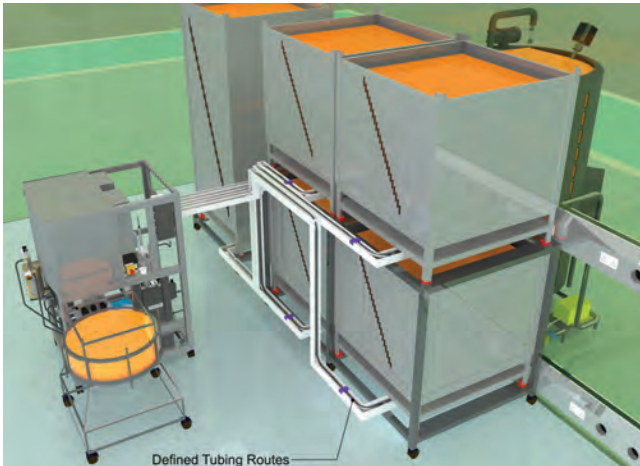
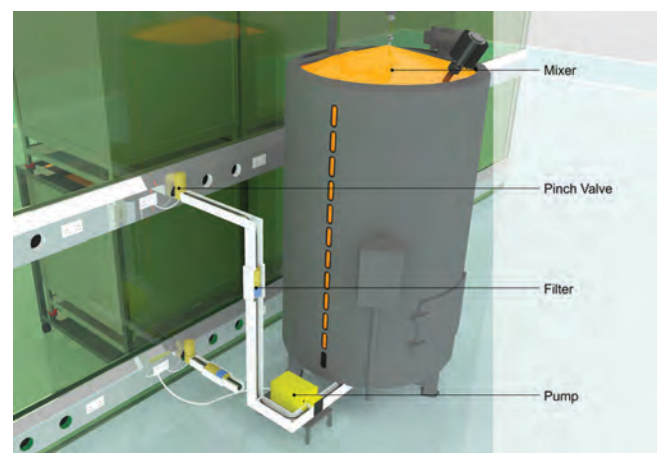

Figure 4. Defined tubing routes and the “drawbridge” used to connect to the chromatography control skid.
Figure 5. Use of pinch valves and defined tubing routes to control transfers through the wall.
By making the systems static, all three of these mitigating measures become available. A 3D interpretation of the defined tubing routes concept is shown in Figure 4 (along with a “draw bridge” which swings into place when totes are in use).
Figure 5 shows a pinch valve next to an Iris valve (the Iris valve closes around the tube as it passes through the wall between buffer and purification). By defining the tubing route from the buffer preparation system to the pinch valve, the computer then knows what buffer is being made (using an MES system), what tank it is being made in (via the load cells on the buffer preparation skid), what route it is taking (via the peristaltic pump and the pinch valve), and what bag/tote it is filling (via the routed tube). As the tube from the buffer tote is routed to a specific port on the chromatography skid as seen in Figure 4, the computer then controls when that buffer is added to the process.
- Racking is used to use all available vertical height - *Figure 4*.